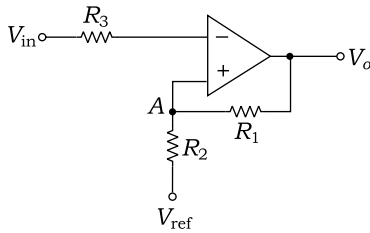

Fig. 7.113 Schmitt trigger circuit
35. A Schmitt trigger circuit is shown in Fig. 7.113 where $R_1 = 12$ k Ω , $R_2 = 6$ k Ω , $V_{ref} = +4$ V, saturation voltage ± 15 V, and $V_{in} = 10 \sin \omega t$.